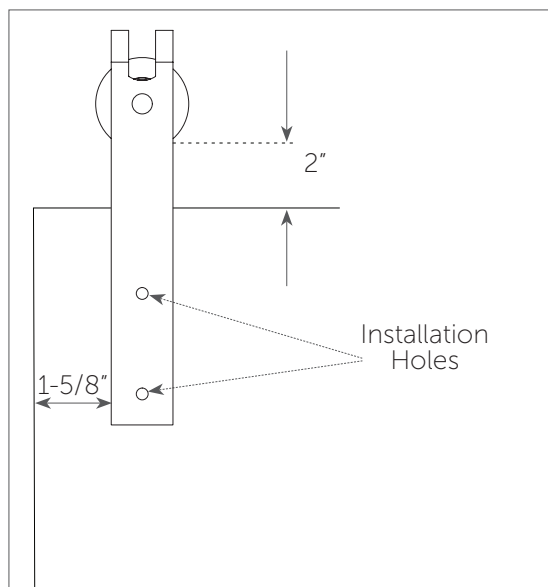

Figure 2
3. Adjust the placement of the hanger for a 2" gap between the top of the door and the bottom edge of the wheel. Ensure the side of the hanger is resting 1-5/8" from the edge of the door (Figure 2).
4. Mark the center of each installation hole with a pencil. (Figure 2).